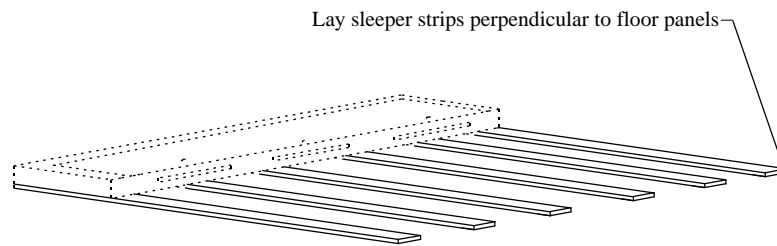

Figure 1 - Laying Out The Sleepers
NOTE: When erecting the walk-in next to an existing building wall, position the walk-in with sufficient clearance (2" minimum) for adequate air flow and to allow for any wall surface irregularity. (If walk-in has been ordered with floor, please see figure 1 in installation manual.)
3. If floor design includes optional sleeper strips, lay strips provided perpendicular to the prefabricated floor panels (across floor panel joints) approximately 16" on center (see figure 1). Appropriate spacing is indicated in the shop drawings.